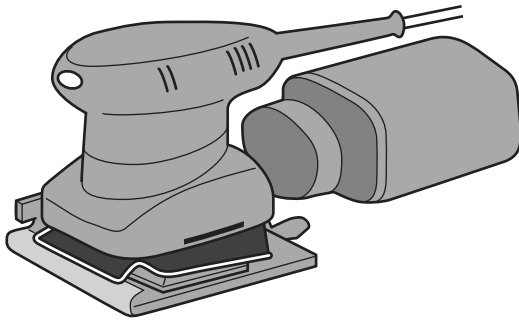

Figure 11.5
- (d) Figure 11.5 shows a palm sander that could be used to prepare the parts of the table before a finish is applied.